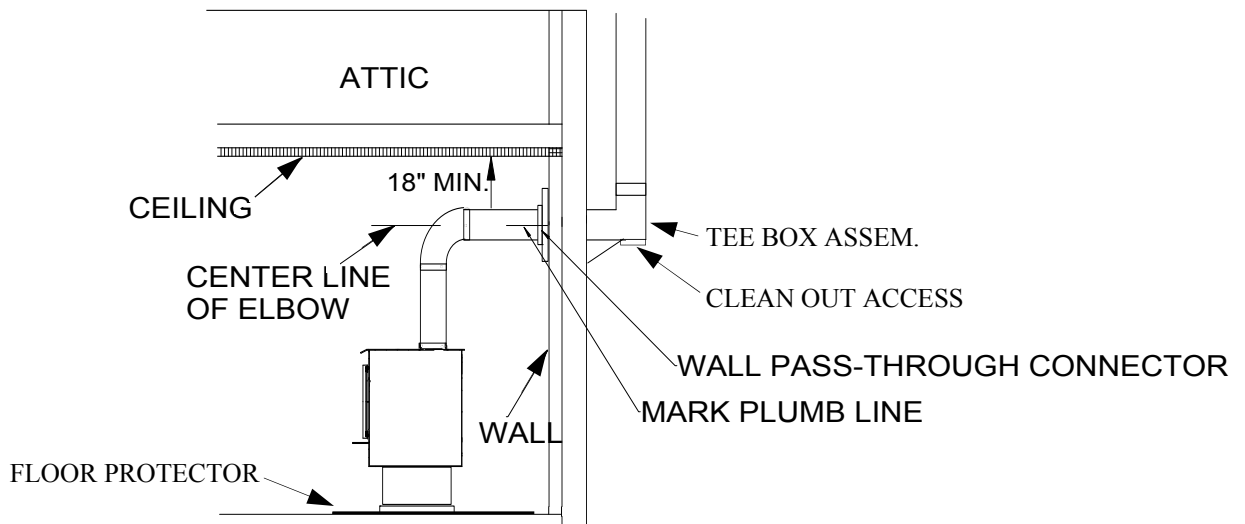

Figure 6
1. Mark plumb line on wall directly behind center of heater. (See Figure 6).
3. Measure up so there will be at least 1/4" rise per foot of horizontal connector pipe, maintaining clearances to ceiling as noted in (Figure 6 Page 14). This will give you center of hole for chimney penetration.